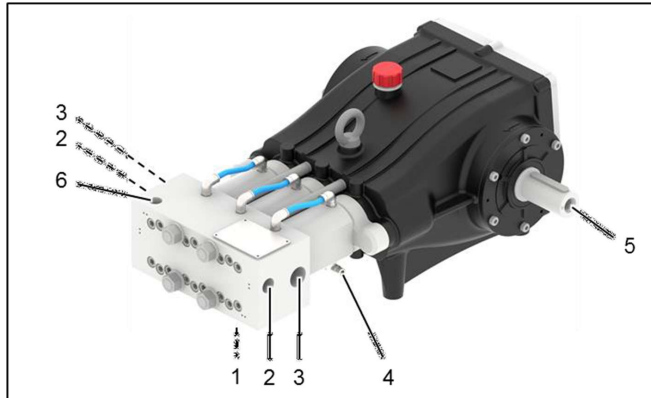

Figure 13: Pump interfaces (similar image)
1. Connect the pipes as shown in Figure 13. We recommend using flexible pipes to avoid the transmission of vibrations.
3. (Automatic) bleed valves are recommended for venting water. A G1" fitting is required for connecting the inlet pressure line (see Figure 13: Position 3). A M24x1.5 fitting is required for connecting the inlet pressure line (see Figure 13: Position 2). In addition, pipe fasteners must be used.